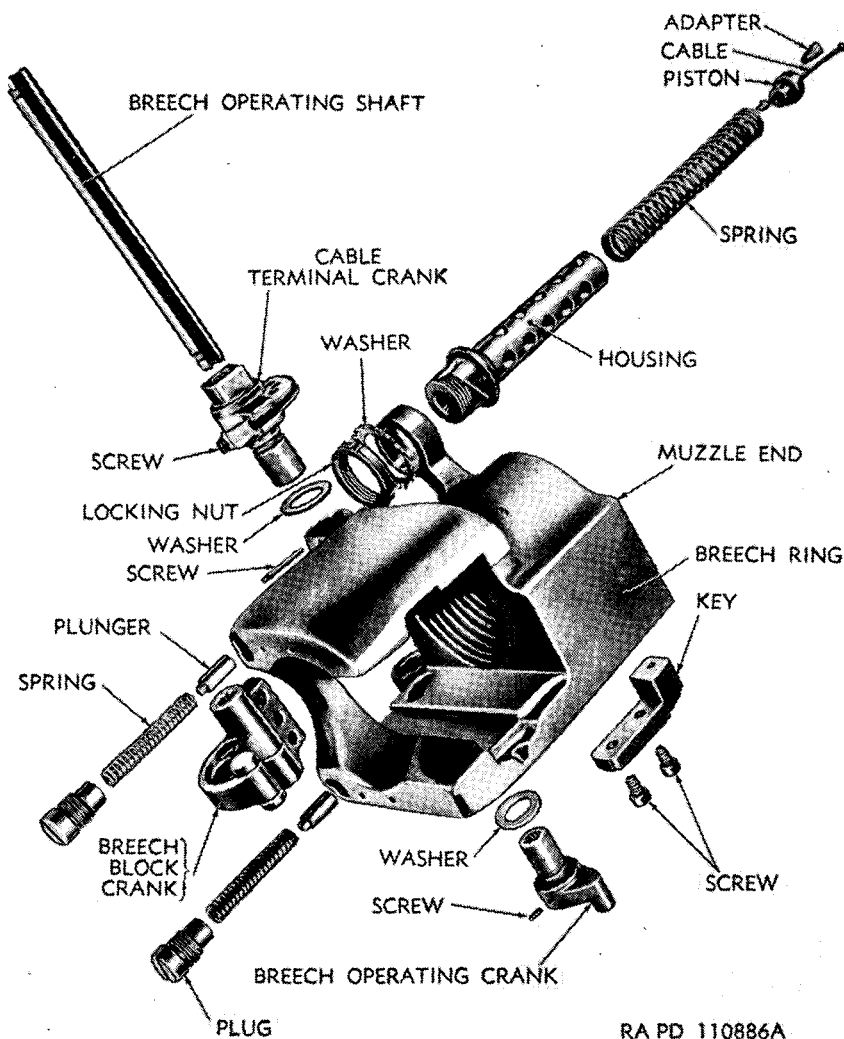

Figure 185. Breech mechanism—exploded view.
- (1) Remove extractor plunger plug, spring, and plunger. Remove extractors (figs. 185 and 186).